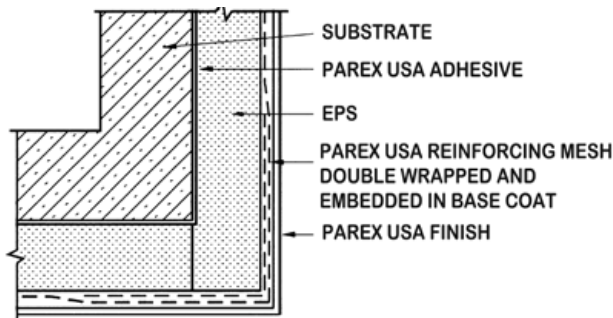

Fig 6.8
(2) Another way to double mesh corners is to wrap and embed mesh in basecoat around the corner from one side to the other side. Next duplicate this process coming from the other side. The double mesh should extend at least 8 in. (20cm) from the corner in both directions. (Fig 6.8).